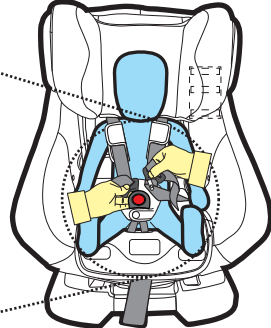

Figure 3
Step 3: Place the child in the restraint with legs either side of the buckle, place the harness over the shoulders and hips (refer Figure 3).